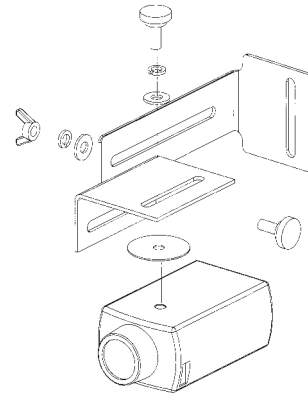

Figure 5
- Adjust camera bracket to proper angle and mount camera to camera bracket. See **Figure 5**.